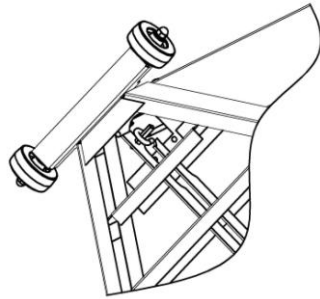

Fig. 2
2. Lay down the scale, with the column horizontal to the floor. Lift the lever and push the lever, Turn and hook the draught rod inside of the column with lever. (See Fig. 2)